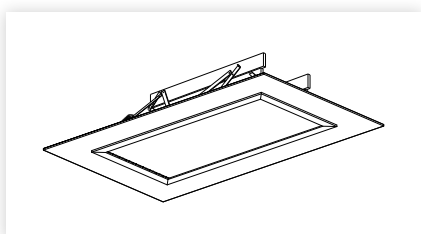

figure 13
1. Fix a suitable architrave around the lid leaving a 2-3mm gap. (figure 13).